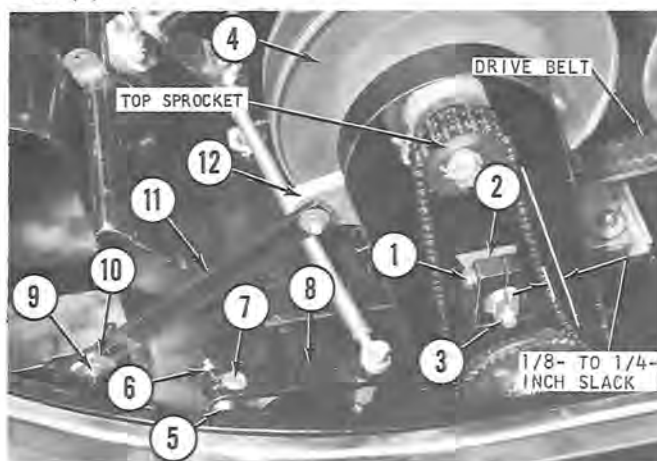

Figure 5
- Remove screw (5, figure 5), washers and locknut (6) securing spindle tube assembly (7) to spindle arm (8).
- Loosen the bolts (1, figure 5) on both cam up-rights (2) and rotate the cam and shaft (3) as required to loosen the chain tension. During reassembly, apply 30 foot-pounds torque to the bolt (1).
A properly adjusted drive chain (figure 5) should have a 1/8- to 1/4-inch slack. Check and adjust chain as follows:
- Loosen the locknut (9, figure 5) and serrated washer (10) securing the clutch rod tensioner (11)
- To adjust drive belt tension, loosen the locknut (9, figure 5) securing the clutch rod tensioner to the main frame assembly.
- Loosen the locknut (9, figure 5) and serrated washer (10) securing the clutch rod tensioner (11) to the main frame. During reassembly, apply 10 foot-pounds torque to the locknut (9).